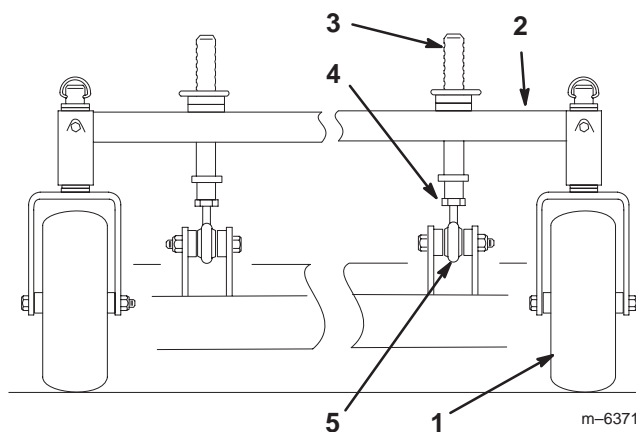

Figure 73
1. To change the front-to-rear pitch, the front height-of-cut posts can be adjusted (Fig. 73).
2. To raise the front of the deck, loosen jam nut and rotate the front pin clockwise (Fig. 73).
3. To lower the front of the deck, loosen jam nut and rotate the front pin counter clockwise (Fig. 73).